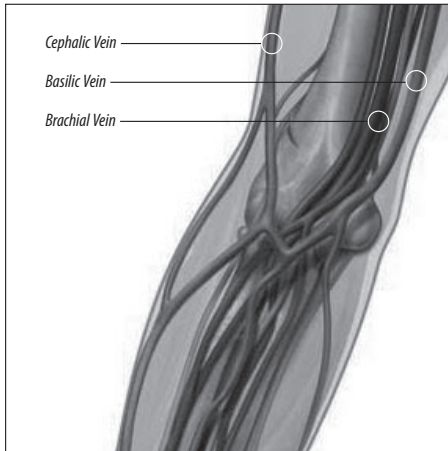

Figure 21
**NOTE:** PICCs are typically inserted into basilic, brachial, or cephalic veins (refer to Figure 21).